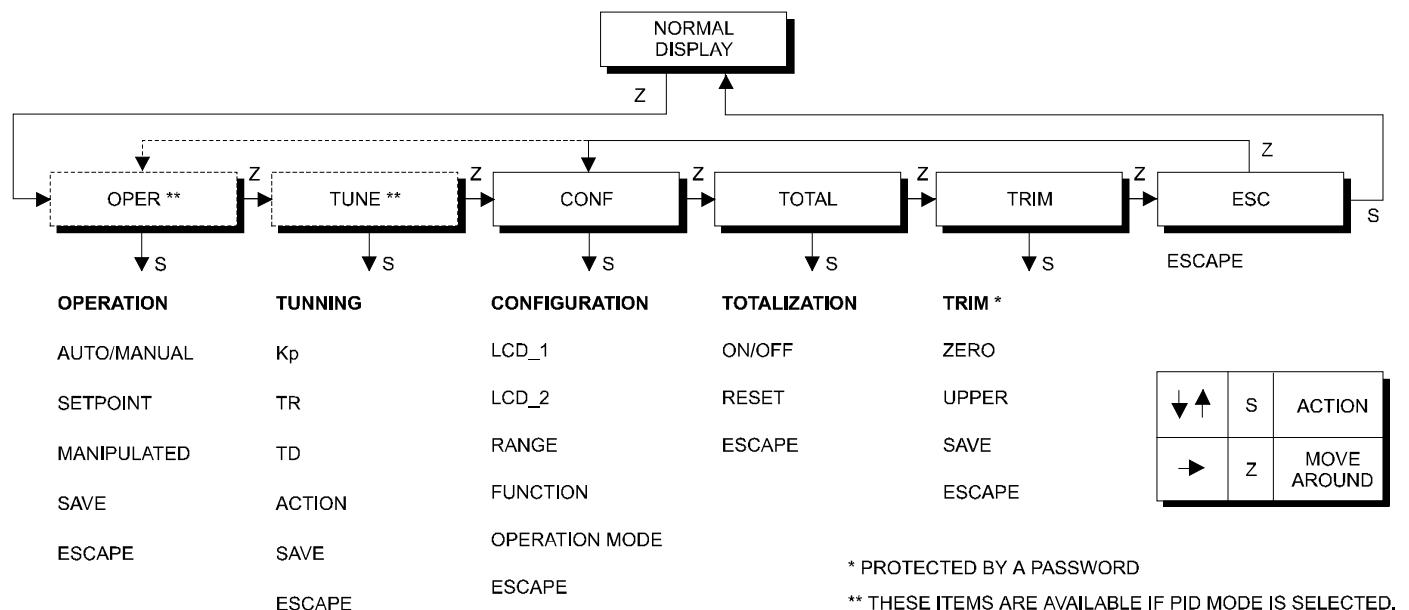

Figure 4.3 – Local Adjustment Programming Tree – Main Menu
- 2 - In order to reach the desired option, browse the options, wait until they are displayed and move the magnetic tool from **(Z)** to **(S)**. Refer to Figure 4.3 – Local Adjustment Programming Tree, in order to know the position of the desired option. By placing the magnetic tool once again in **(Z)**, it is possible to browse other options within this new branch.
The local adjustment uses a tree structure where, by placing the magnetic tool in (Z) it is possible to browse the options of a branch and, by placing it in (S); details of the chosen option are shown. Figure 4.3 - Local Adjustment Programming Tree shows the **LD301** available options.